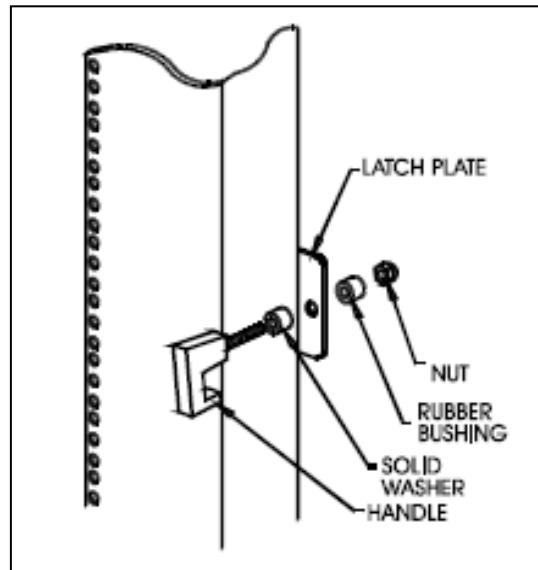

Figure 6
9. Assemble the handle latch as shown in Figure 6 to the latch side of the swing frame.